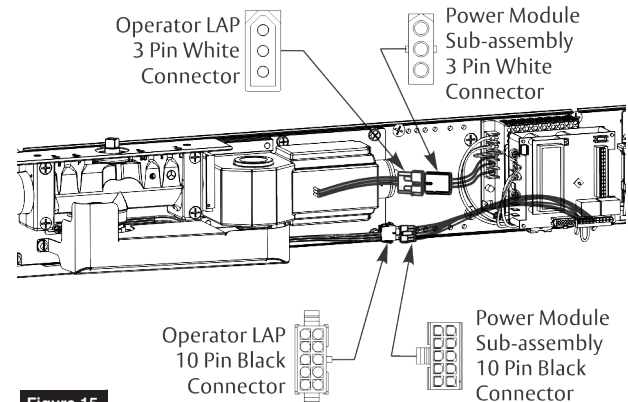

Figure 15
1. Attach 10-pin black connectors between operator LAP and power module sub-assembly. (Figure 15)
2. Attach 3-pin white connectors between operator LAP and power module sub-assembly. (Figure 15)